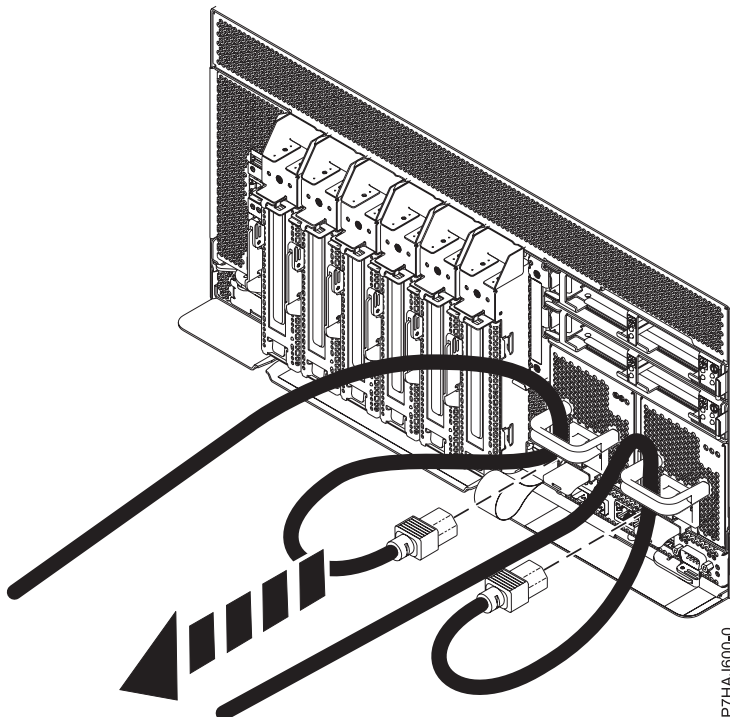

Figure 21. Removing the power cords
3. Disconnect the power cords from the system unit as shown in Figure 21.